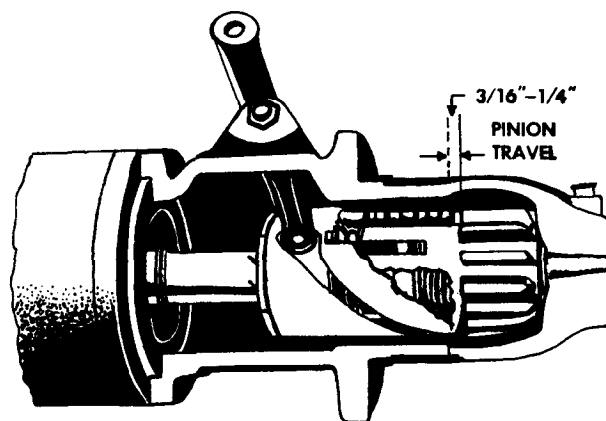

Figure 10—Pinion travel check in Dyer drive assembly.
5. Measure the pinion travel (Fig. 10).